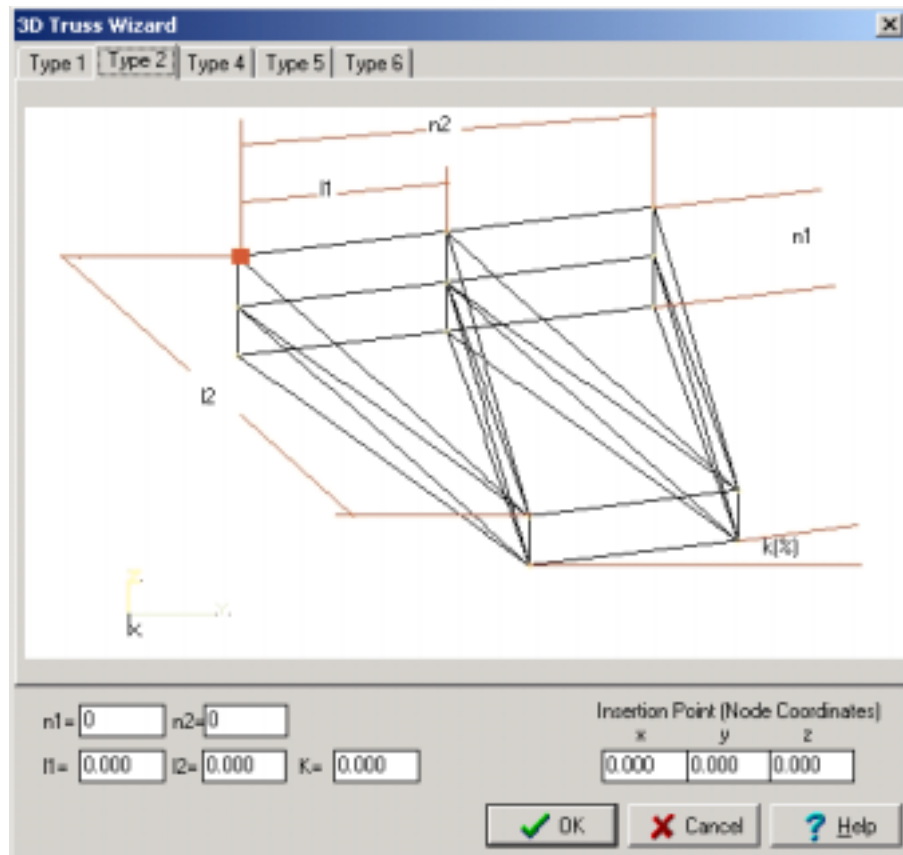

Figure 71 3D TRUSSES' WIZARD TYPE 2
This type of 3D truss is shown in figure 71.
1. While the dialogue box "3D TRUSS WIZARD" is open, click on the TYPE 2 label. The table shown in figure 71 will appear.